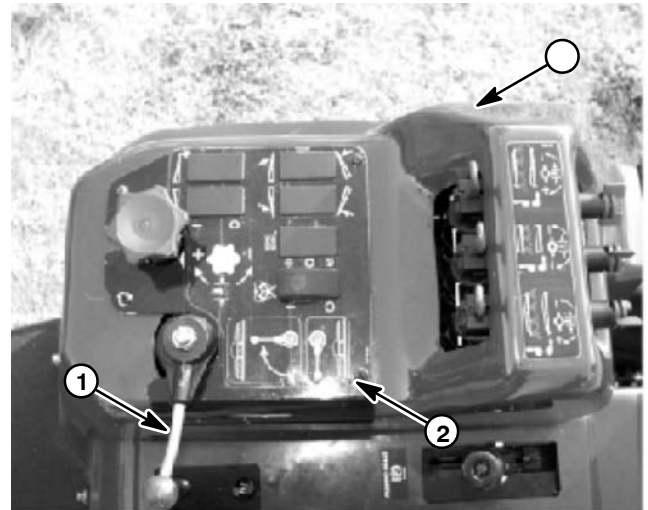

Figure 21
2. Remove master boom valve handle, spray console panel, and spray console from machine (Fig. 21).
3. Install spray console, spray control panel, and master boom valve handle to machine (Fig. 21).